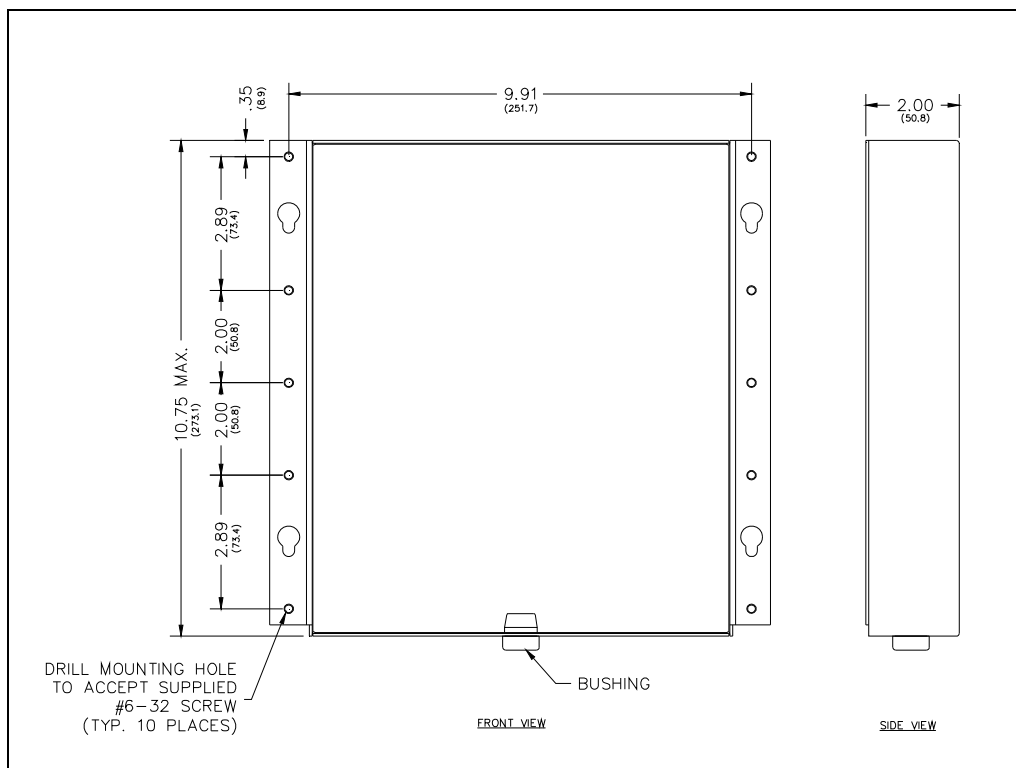

Figure 6. Back Box for Model 295-001F
4. Place the bushing around the field telephone line and the power cable line approximately 6–8 inches from the end of the cable. Snap the bushing closed and insert it into the double D hole in the bottom of the back box (see Figure 3 and Figure 6).
5. Place the back bracket in the wall and mark the mounting hole locations (see Figure 6).